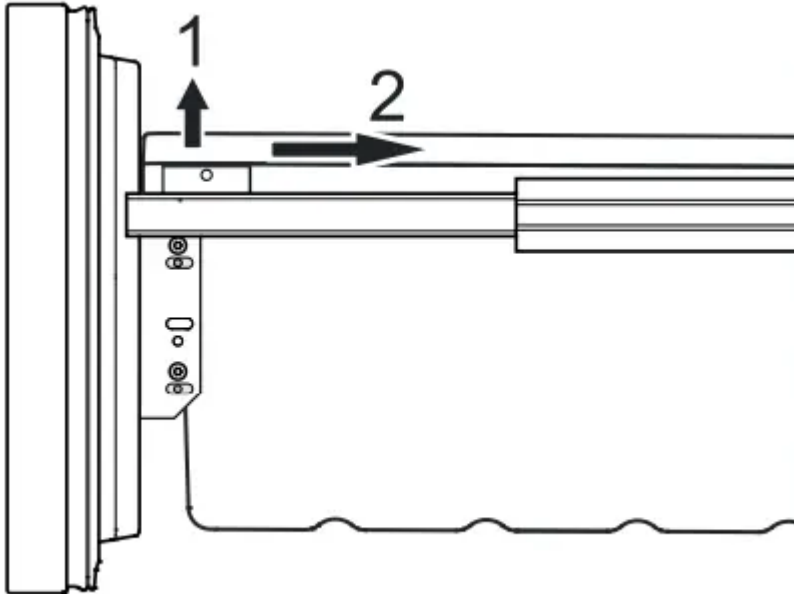
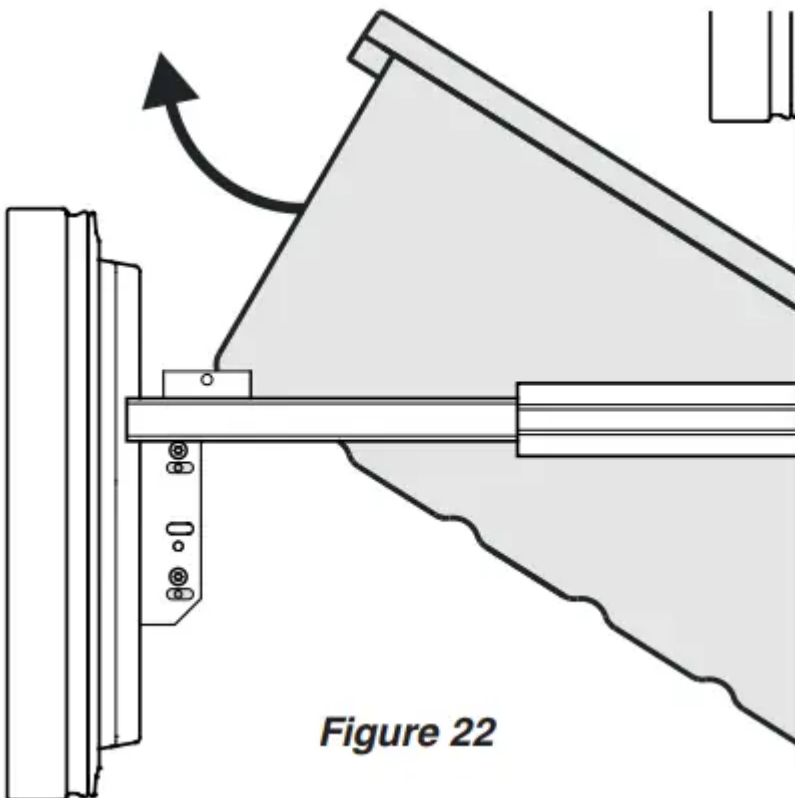

Figure 21
Figure 22
- Unlatch the container on the left and right corners by pulling upwards (1) - Figure 21.
- Slide the container backwards (2) - Figure 21.
- Tilt the container at an angle and remove - Figure 22.
- Remove the freezer drawer containers as shown in Figure 21 and Figure 22.